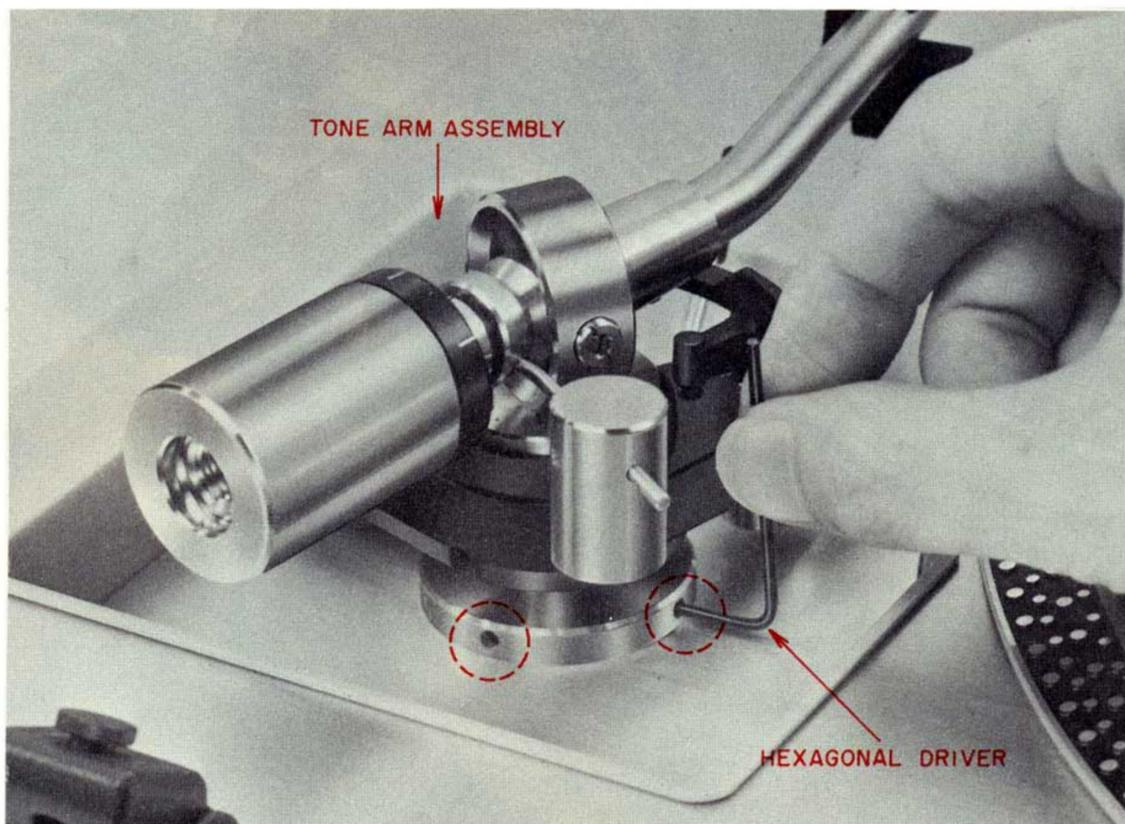

Fig. 5
(Refer to Figs. 5 and 6)
- 1) Use a hexagonal driver as shown in Fig. 5 and loosen the two screws at the base of the tone arm assembly.